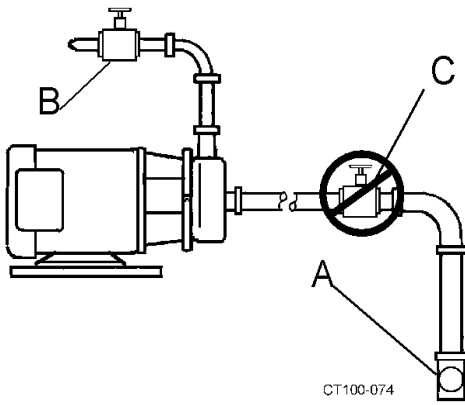

Figure 17 - Valve Piping Installation
- This pump is not self priming. If the pump is installed above the supply liquid level, install a foot valve or other system check valve to keep the system flooded for priming (Figure 17, item A)
- A throttling valve may be required to control the pump flow rate to prevent motor overload. Always install the throttling valve (Figure 17, item B) in the discharge piping, at least 10 pipe diameters from the pump outlet.
- **Never** install a throttling valve in the supply piping (Figure 17, item C).